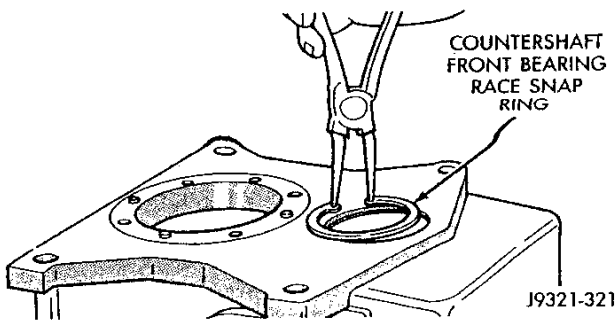

Fig. 59 Front Bearing Race Snap Ring Installation
(6) Install snap ring that retains countershaft front bearing race in case bore (Fig. 59).